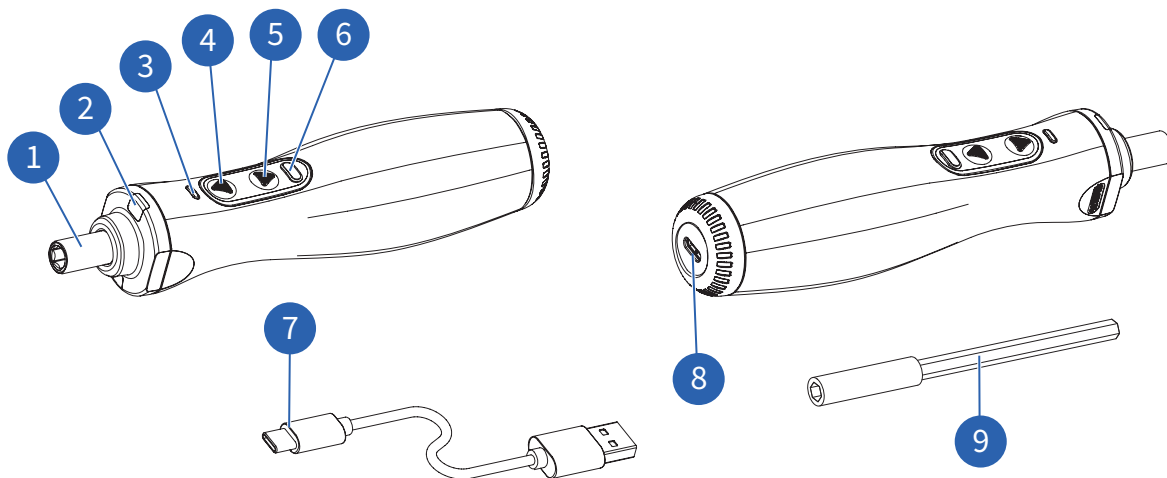
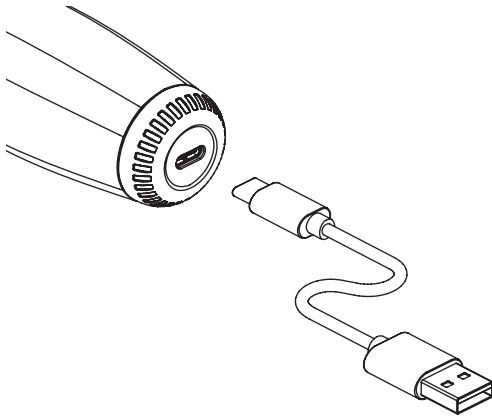

Fig. 1: Overview
Fig. 3: USB charging cord
1. To install the bits push the bit or extension rod directly into the hex drive chuck (Fig. 1/**1**) until it is installed in place.
1. Insert the charging plug (Fig. 1/7) into the charging socket (Fig. 1/8) and ensure that they are connected correctly (Fig. 3).
1. To tighten the screw, press the forward button (Fig. 1/4), and the tool will turn forwards into the screw.
2. To loosen the screw, press the reverse button (Fig. 1/5) and the tool will reverse rotate to loosen the screw.
- › There are two white LED lights at the front of the tool (Fig. 1/2), which can be switched on and off by pressing the mode selector button (Fig. 1/6).
1. Short press the mode selector button (Fig. 1/⑥) to turn on/off LED light.